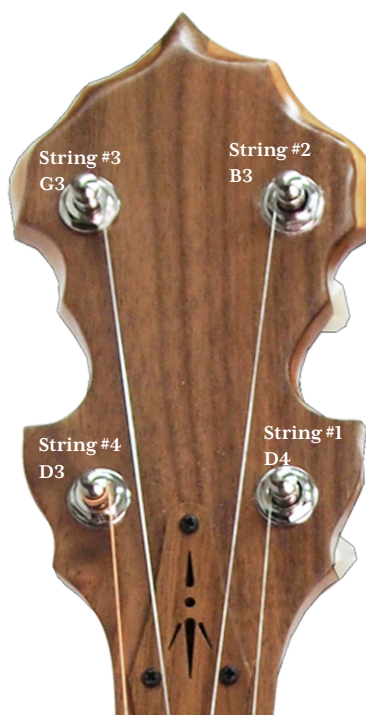

FIG. 28
Hook the looped end of the string #4 onto the 2nd tailpin from the left (tape it to hold it in place) and hold it up to the lower left peg on the peghead. See fig. 28 to see how the strings are numbered.
NOTE: Strings should wind toward the center of the peghead. (fig. 28)
- 27. Install three more strings following the diagram above (fig. 28) hooking their loops over the proper tailpins as you install them in order.